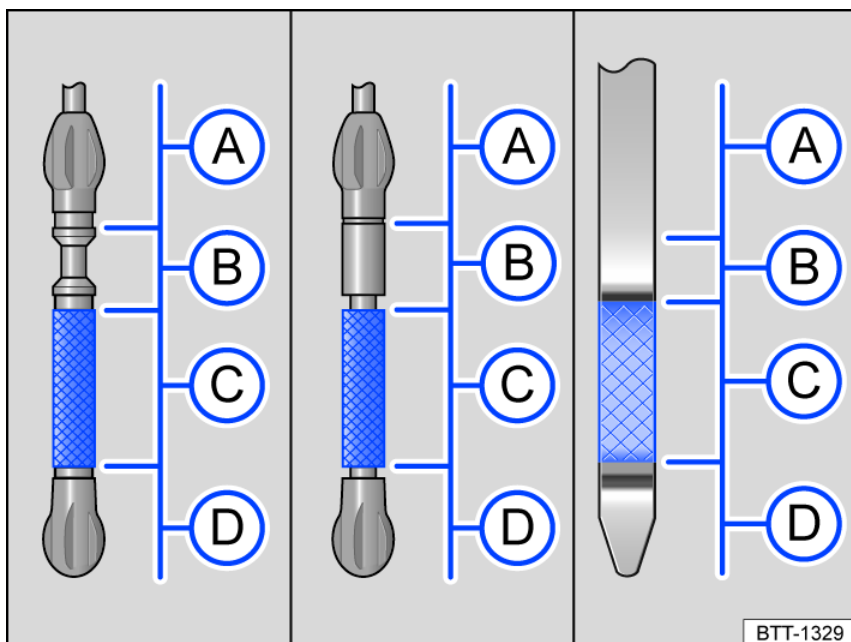

Fig. 193 Engine oil level markings on the oil dipstick (versions).
Key for fig. 193:
7. Remove the dipstick again and read the oil level on the dipstick as described below fig. 193:
13. When you are done adding oil, the oil level should be in the center of area *fig. 193* **C**. It should not be above **C**, it should be in area **B**, and it must not be in area **A** → **!**.
14. If you accidentally add too much oil and the oil level is in area *fig. 193* **A**, **do not start the engine**. Contact an authorized Volkswagen dealer or authorized Volkswagen Service Facility for assistance.
- If you accidentally add too much oil and the oil level is in area *fig. 193* **A**, do not start the engine. Contact an authorized Volkswagen dealer or authorized Volkswagen Service Facility for assistance if necessary. Otherwise, the catalytic converter and the engine could be damaged.
B The engine oil level must not be above area *fig. 193*. Otherwise, oil could be drawn into the crankcase vent and enter the atmosphere through the exhaust system.